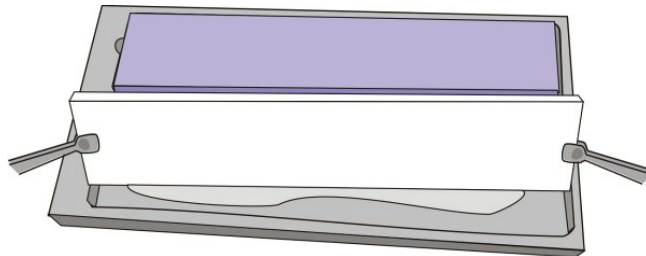

Fig. 6
10. Remove excess electrode buffer from the wicks by tilting the electrode wicks along one long edge and dab it on the PaperPool bottom (Fig. 6).